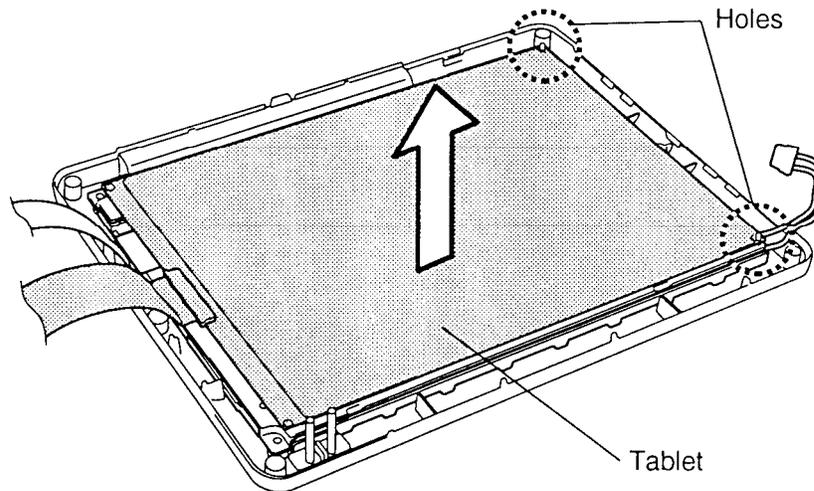

Figure 4-22 Removing the T200CS Tablet
6. Lift the tablet off the two guide posts and remove it (Figure 4-22).
1. Place the **tablet** on the display module. When you seat the **tablet**, align the holes at each corner with the corresponding posts on the LCD module (Figure 4-22).